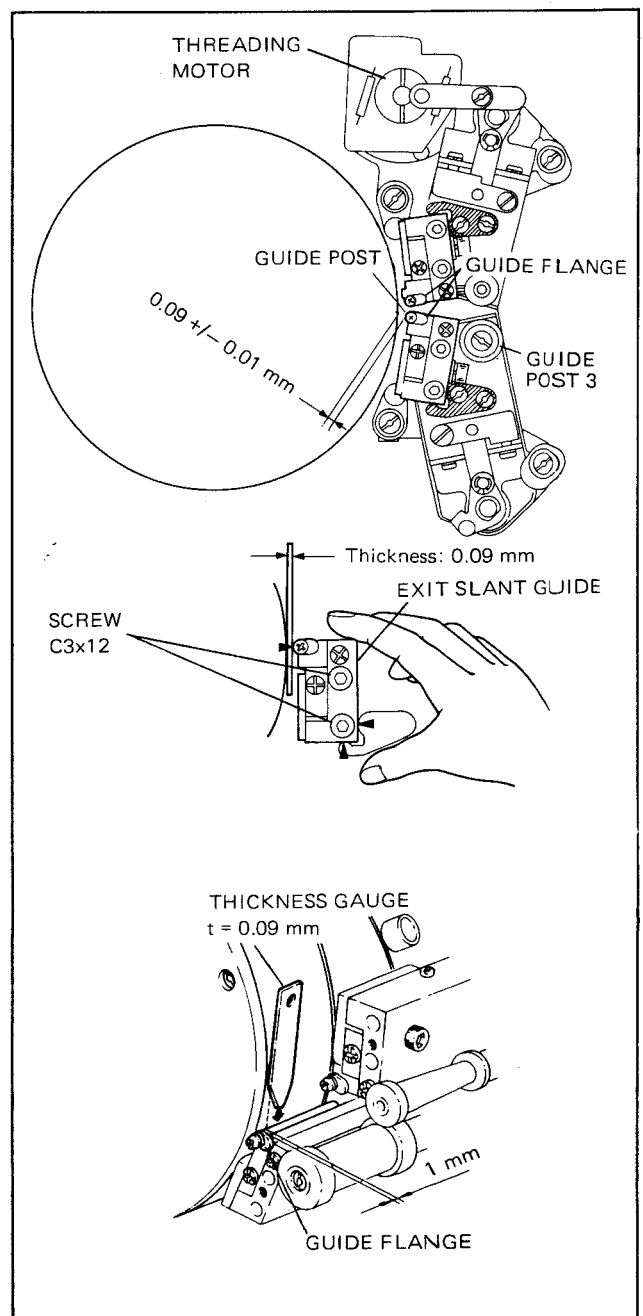

Fig. 6-33. Exit slant Guide Assembly Position Adjustment
19. Insert the thickness gauge of 0.09 mm in thickness between the upper drum and the guide post as shown in Fig. 6-33. While pressing the exit slant guide assembly to come in contact with the three points indicated by ▲ in the figure, tighten the two C3X12 screws firmly.